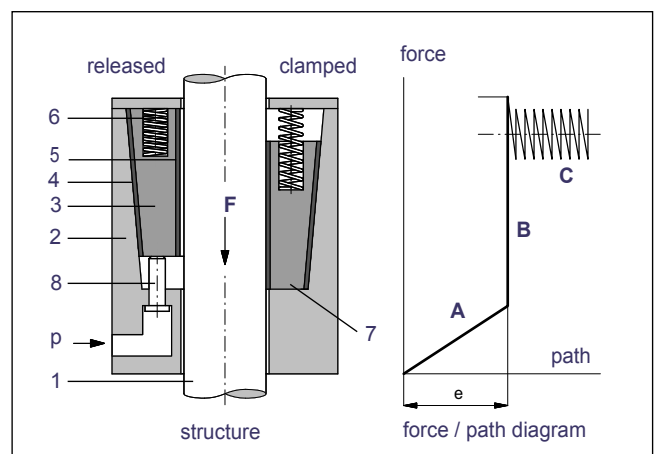

Fig. 1: Design principle
The Safety Catcher secures the load as soon as pressure is released from the plungers (8), *Fig. 1*. Then the action of the springs (6), *Fig. 1* causes the clamping jaws (3), *Fig. 1* to clamp the rod (1), *Fig. 1* firmly, whereby an initial friction contact between rod and clamping sleeve is achieved (contact condition).
The holding force, however, is not built up until the rod has been moved by the load. Due to the self-reinforcing static friction at the rod, the clamping systems contracts: The clamping jaws (3), *Fig. 1* are drawn into the clamping position at their stops (7), *Fig. 1* after having moved the distance "e", *Fig. 1* (approx. 5 to 15 mm, depending on the design). This movement is illustrated as phase **A**, *Fig. 1* in the force/path diagram.
If the load is increased further (phase **B**, *Fig. 1*), the rod remains in its clamped position, independent of the load, until the static holding force F^* , *Fig. 1* is reached. As soon as this limit is exceeded, the Safety Catcher (phase **C**, *Fig. 1*) generates a mean dynamic braking force F (holding force), *Fig. 1* and thus dissipates the kinetic energy of the falling mass.